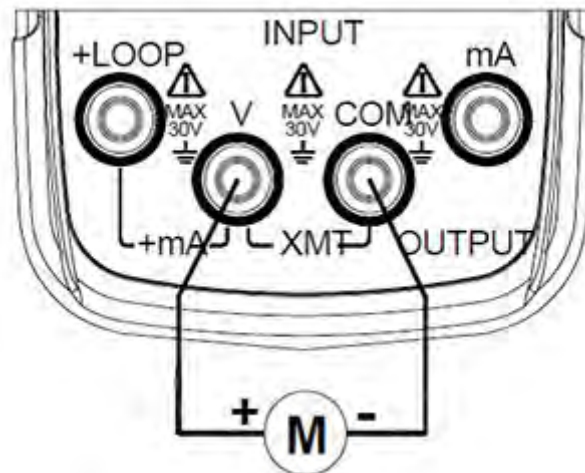

Figure 6-2
1. Insert one end of the test lead into the V input jack (INPUT) of the EC mAV 2 and connect the other end to the output of the user's device as shown in Figure 6-2: